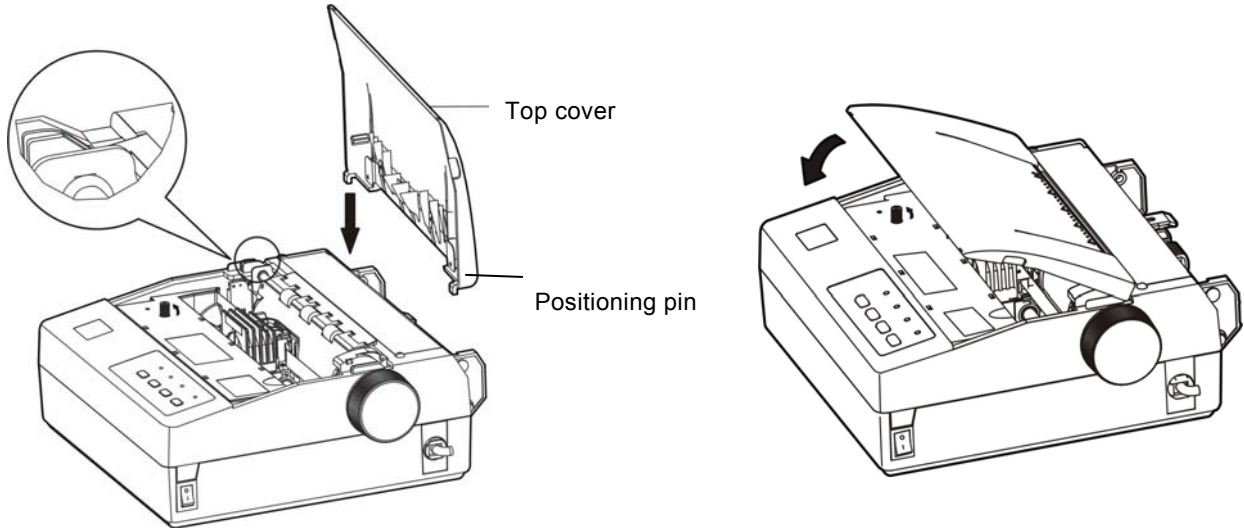

Figure 1-8 Installing the top cover
7. Install the top cover (As shown in Figure 1-8)
To have the positioning pins locked into the holes of the printer, then close the top cover. To take its edges inosculate the printer upper cover. (As shown in Figure 1-8)